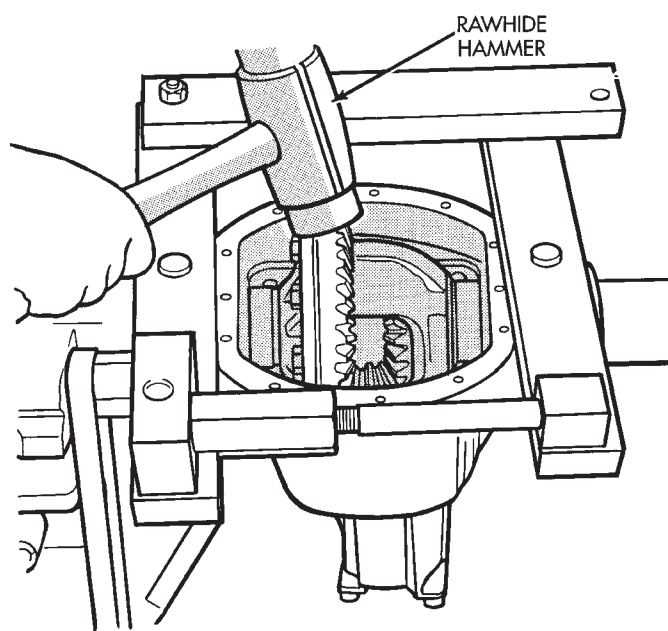

Fig. 42 Differential Installation
(6) Install case in the housing. Tap the differential case to ensure the bearings are fully seated (Fig. 42). Remove the spreader.